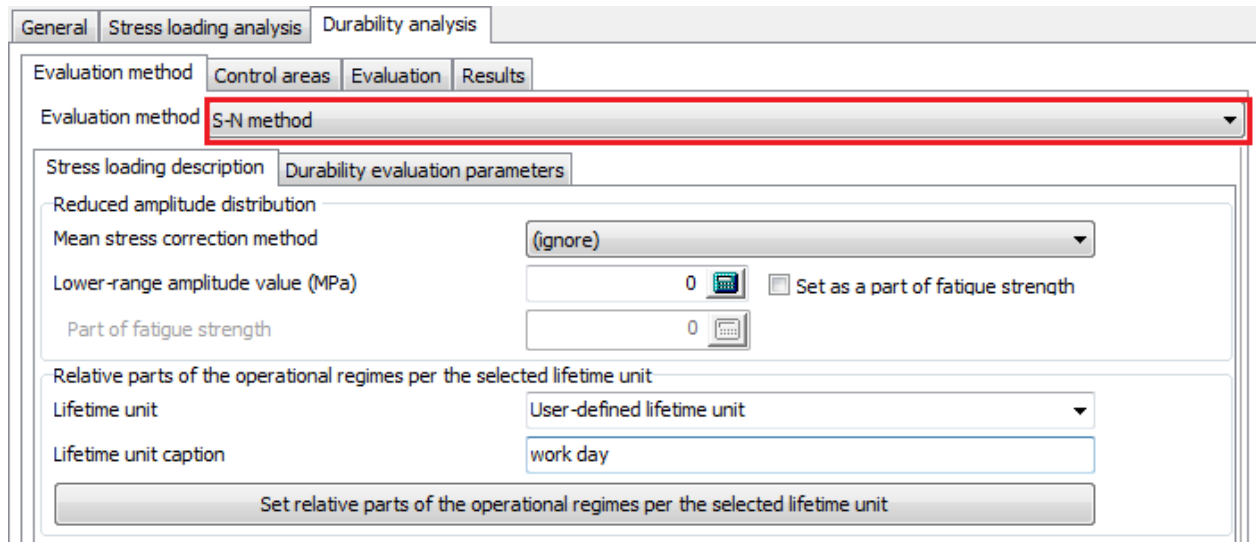

Figure 2.24. Parameters setting: stress loading data description
1. Select **Durability analysis | Evaluation method** tab and set **Evaluation method** to **S-N method**, see Figure 2.24. This method is the general method of S-N analysis realized in **UM Durability**.
2. Select the **Stress loading description** tab, see Figure 2.24.
5. Input **workday** in the **Life-time unit caption** box, see Figure 2.24.